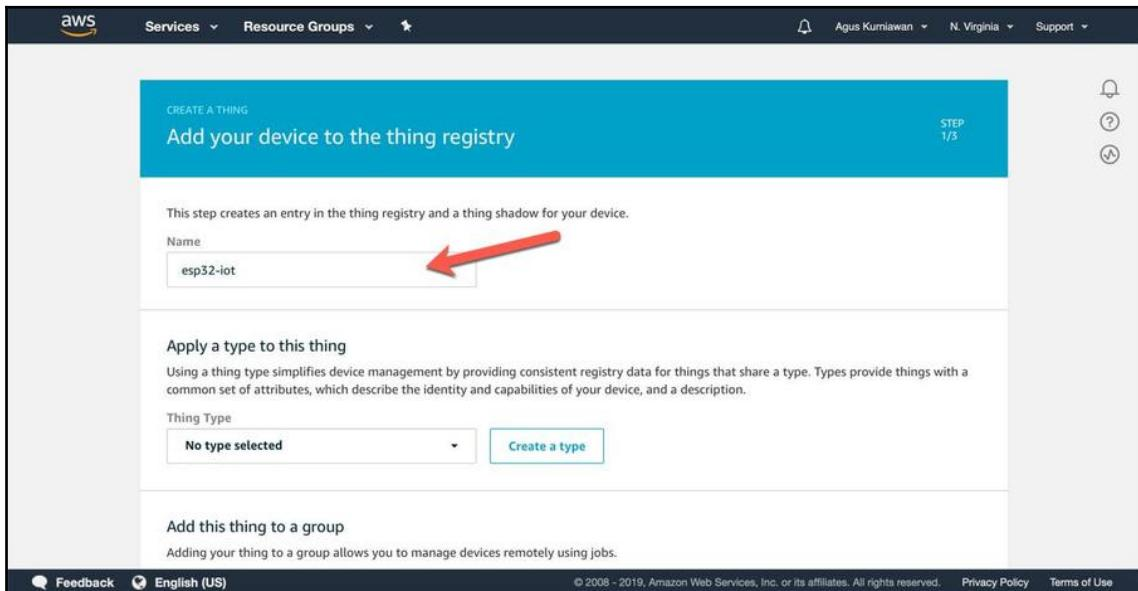

Figure 10.4: Giving your device a name
9. After clicking on the **Create a single thing** button, you get a web form as shown in *Figure 10.4*.